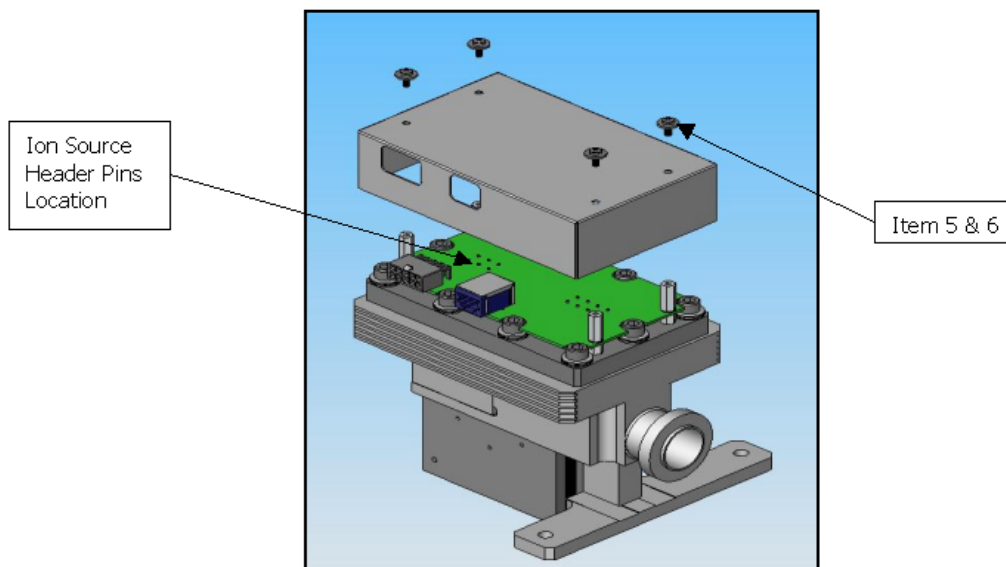

Figure 12: Ion Source Header Pin Locations
28. Place the spectrometer cover over the header and align the holes (Figure 12: Ion Source Header Pin Locations).
29. Install screws and washers (items 5 & 6), then tighten using a M3 Phillips screw driver (Figure 12: Ion Source Header Pin Locations).